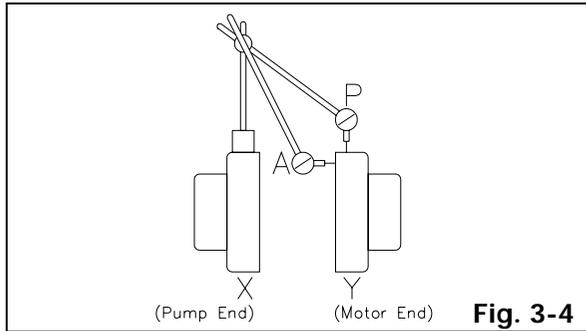

Fig. 3-4
2. Mount two dial indicators on one of the coupling half (X) so they contact the other coupling half (Y) (Fig. 3-4).